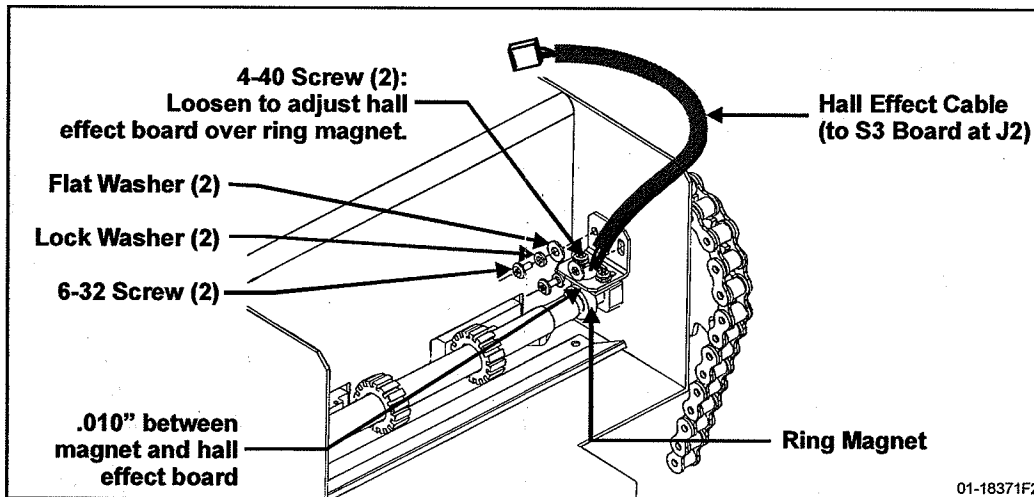

Figure 2: Hall Effect Assy. Installation for the SL580
- 6 **SL580 Operators:** Install the new hall effect sensor assembly according to Figure 2.